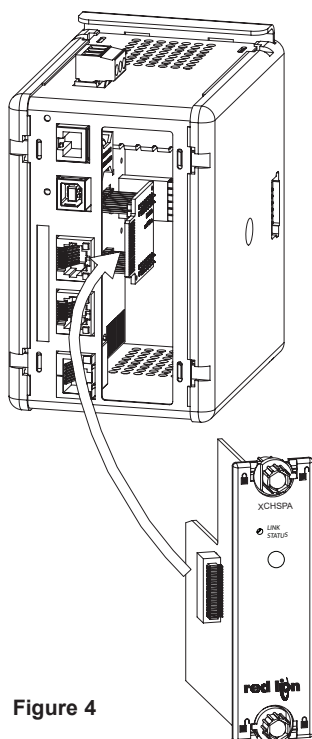

Figure 4
4. Carefully insert the option card into the expansion port opening while aligning the card-edge connector on the option card with the main board's header, as shown in Figure 4. Once aligned, gently press on the front of the card until it is flush with the front of the case.